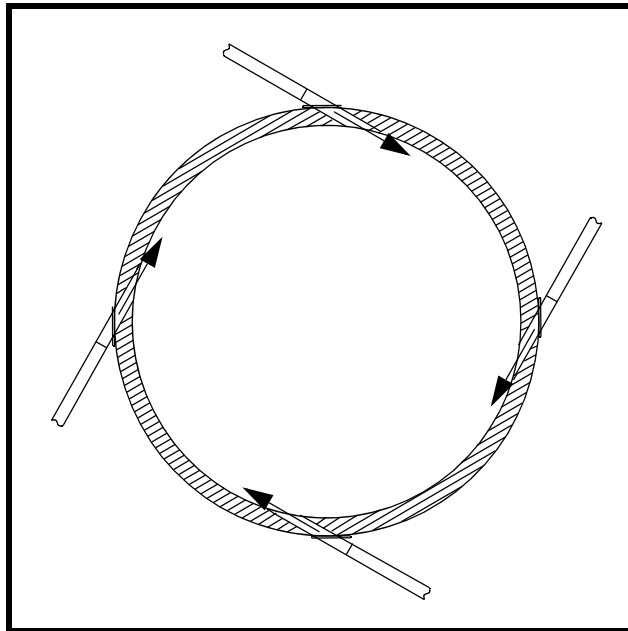

Figure 11. Cyclone with High-Temperature Blow Pipes
- (2) Insert blow pipe (B) in hole with pipe end flush with refractory lining surface. Position blow pipe to sweep walls when cannon discharges (see Figure 11).